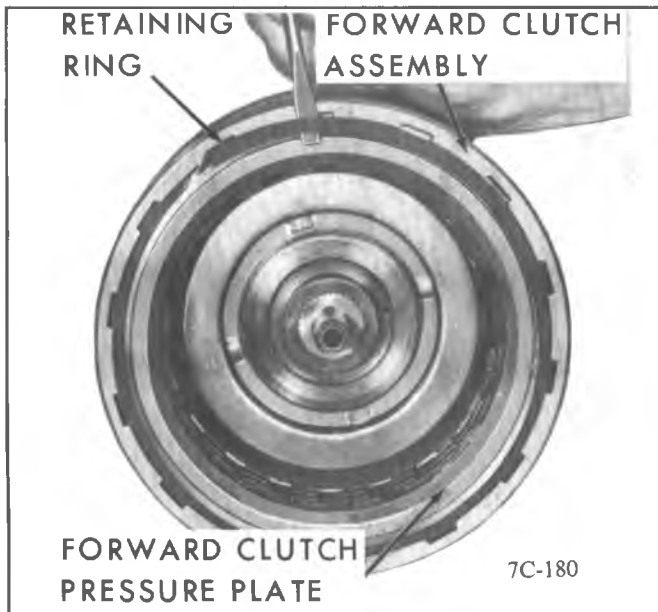

Figure 7A3-90 Forward Clutch Retaining Ring
2. Remove forward clutch housing faced plates, steel plates, and cushion spring. See Figure 7A3-91.